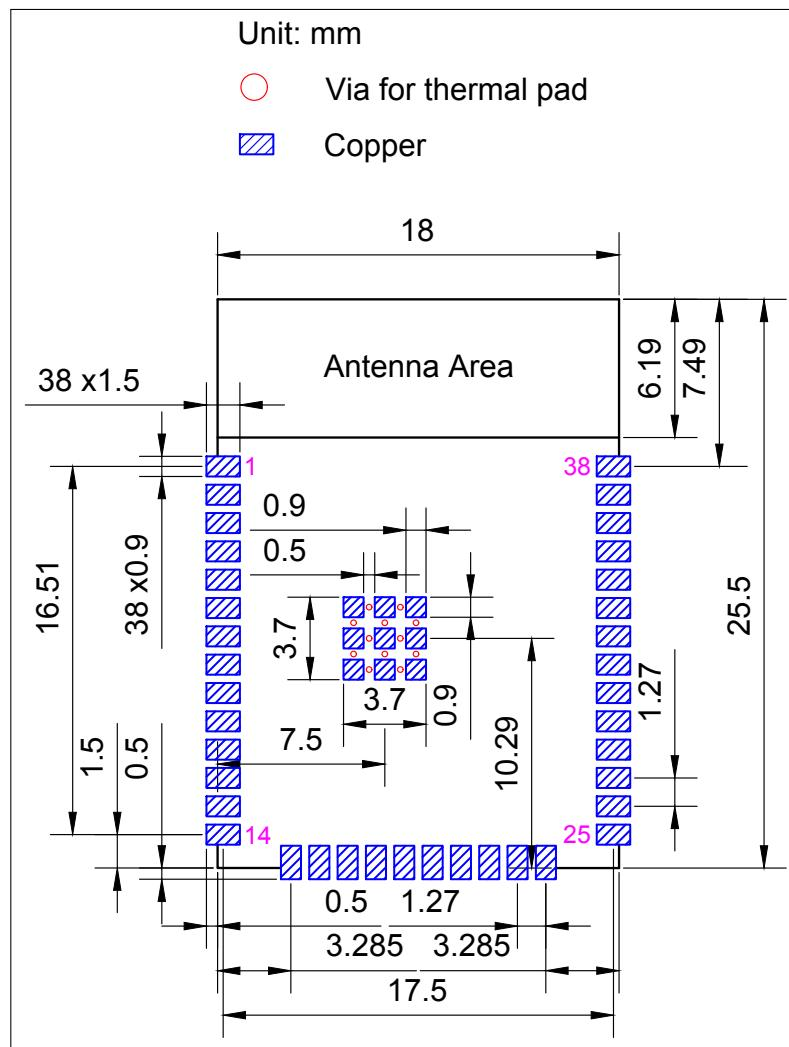
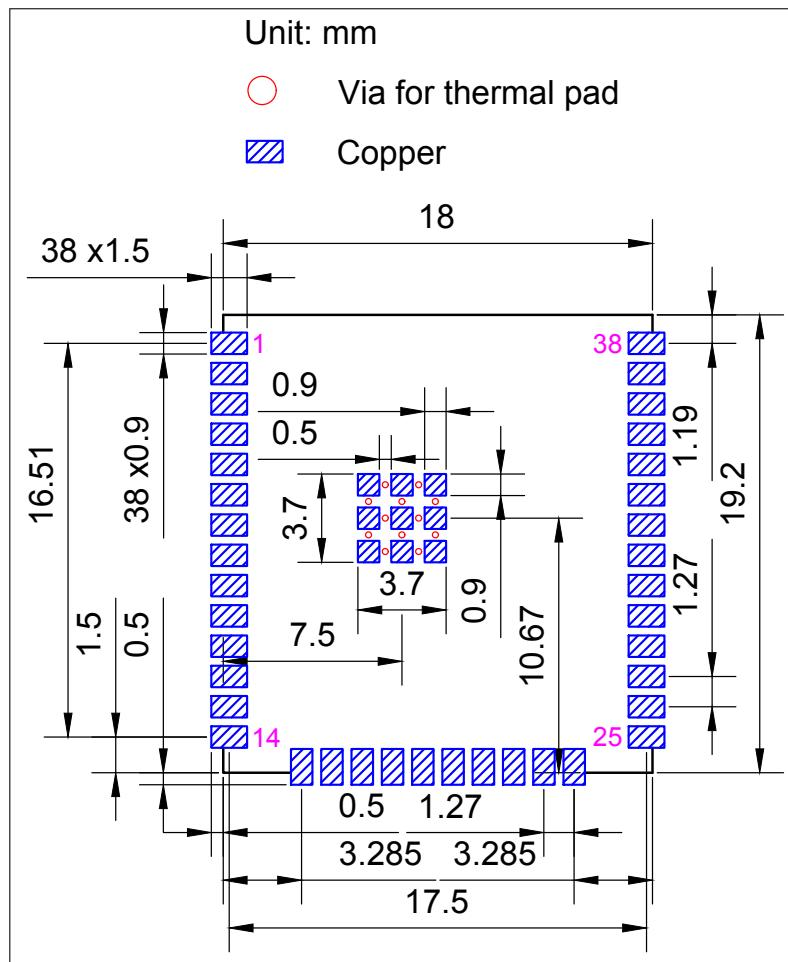

Figure 13: ESP32-WROOM-32E Recommended PCB Land Pattern
Figure 14: ESP32-WROOM-32UE Recommended PCB Land Pattern
- Figures for recommended PCB land patterns with all the dimensions needed for PCB design. See Figure 13 ESP32-WROOM-32E Recommended PCB Land Pattern and Figure 14 ESP32-WROOM-32UE Recommended PCB Land Pattern.
- Source files of recommended PCB land patterns to measure dimensions not covered in Figure 13 and Figure 14. You can view the source files for ESP32-WROOM-32E and ESP32-WROOM-32UE with Autodesk Viewer.